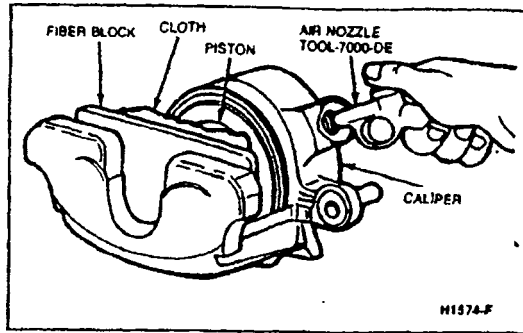

FIG. 5 Piston Removal From Caliper—Typical
2. Disconnect the caliper from the hydraulic system, and blow the piston out by using air pressure. Apply air pressure to the fluid port in the caliper with Air Nozzle Assembly Tool 7000-DE or equivalent (Fig. 5) to remove the piston. If the piston is seized and cannot be forced from the caliper, tap lightly around the piston while applying air pressure. Do not use a screwdriver or similar tool to pry the piston out of the bore, because it may result in damage to the piston. Cushion the piston's impact against the caliper iron when blowing it out of the bore by placing shop towels between the piston and caliper bridge.